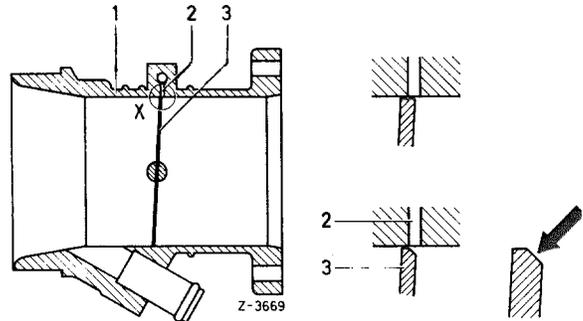

Fig. 07-14/35
In case of complaints regarding surging in the overrun, check whether the vacuum bore (2) in the venturi control unit (1) is sufficiently cleared for the ignition advance (Fig. 07-14/35).
throttle valve (3). If so, slightly chamfer inner side of throttle valve (see arrow in Fig. 07-14/35) until bore is completely cleared.